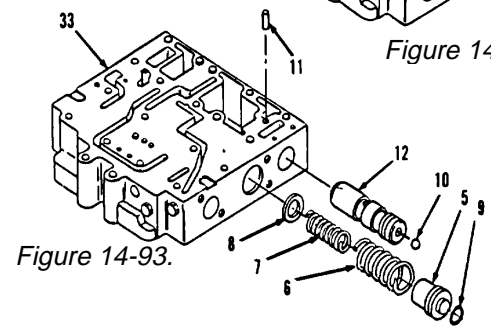
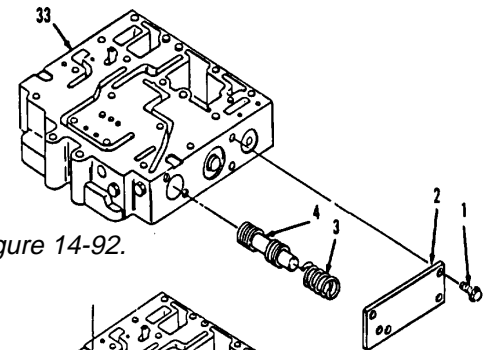
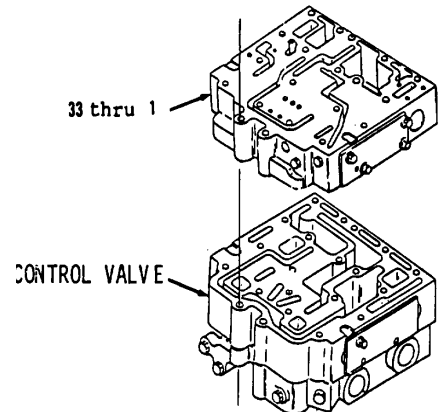

Figure 14-93.
Figure 14-92.
Figure 14-91.
9. Install stop (12) and dowel (11, Figure 14-93). Dowel (11) must be installed 0.190 inch beneath face of body (33).
10. Install ball (10) in body (33).
11. Install new preformed packing (9) on plug (5).
12. Install washer (8), springs (7 and 6) and plug (5).
13. Install spool (4) and spring (3, Figure 14-92).
14. Install cover (2) and four bolts (1). Tighten four bolts (1) to 19 to 25 ft-lb. torque.
15. Install items 33 thru 1 as an assembly (Figure 14-91) on control valves.